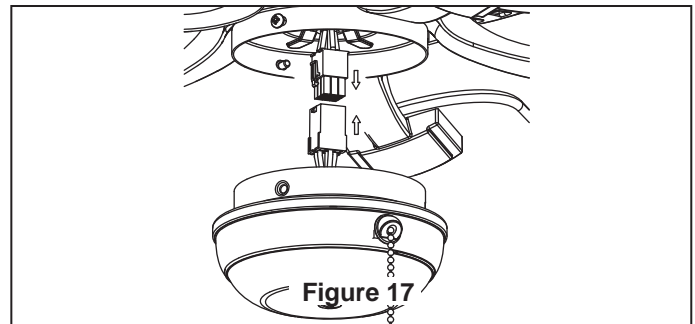

Figure 17
1. Securely attach the 9-pin switch cup connector to wiring harness socket within Switch Cup Assembly. (Figure 17)